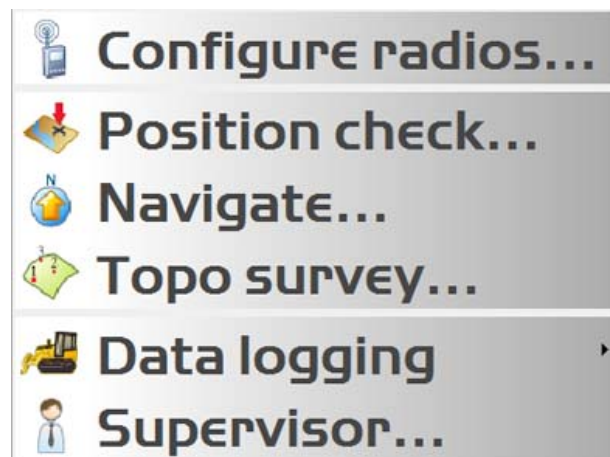

Figure 96: Item Unlocked
6. Press the Power button on the display, then tap **Tools ▶ Supervisor ▶ Exit lock mode**. The previously locked item is available (Figure 96).